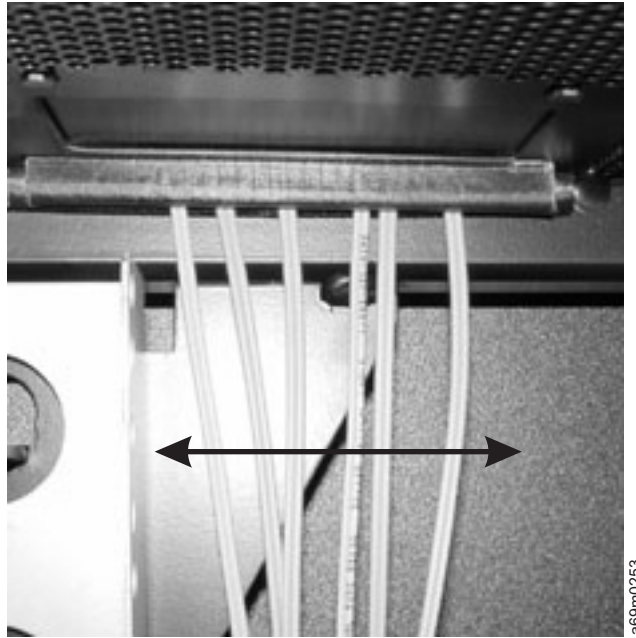

Figure 19. Positioning the Fibre Channel cable inside the frame
6. After you route the cables inside the frame, position them as shown in Figure 19